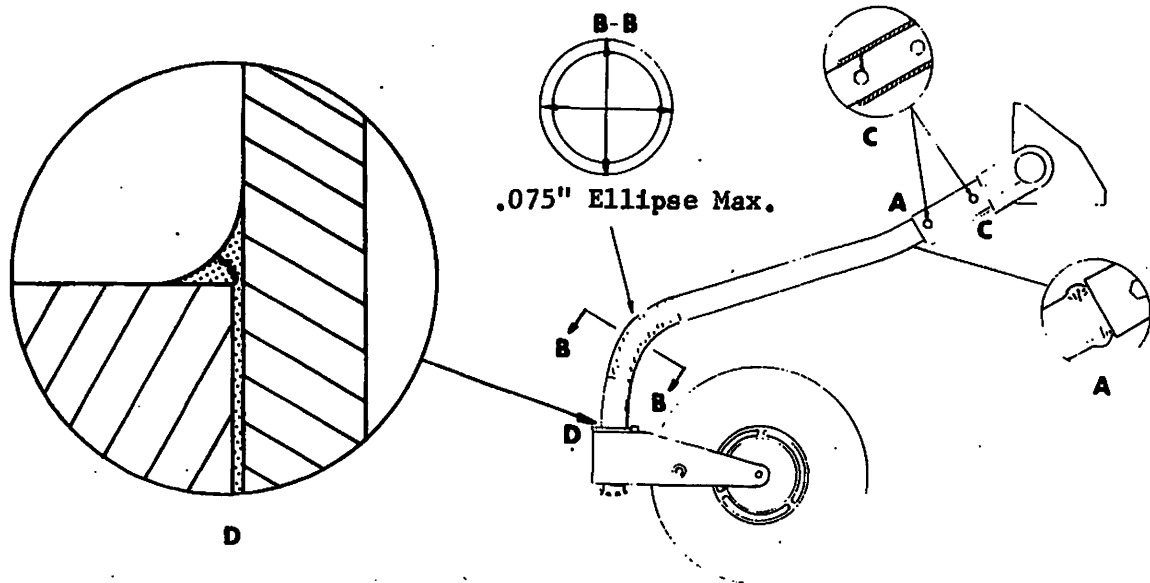

Figure 2-9. Nose Gear Strut
- c. Inspect the curved area of the strut for flattened condition as shown in Section B, Figure 2-9. An elliptical shaped cross section exceeding .075" is cause for rejection of the strut.
- f. Inspect the nose fork bearing cup to nose strut bond joint per Section 4-10-01(c). See Figure 2-9, Area D.